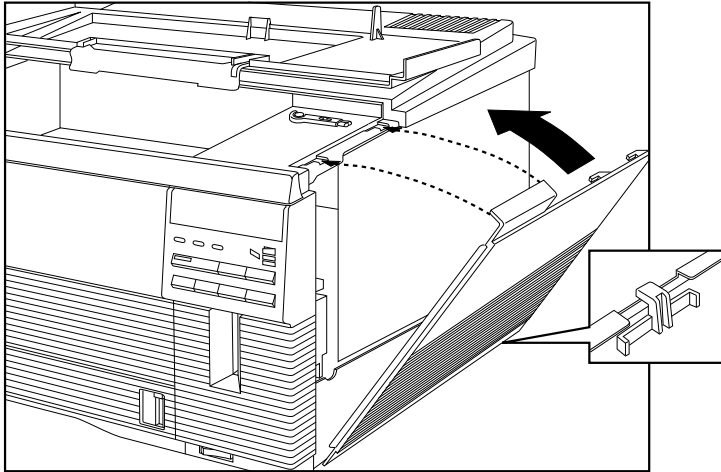

Fig. 9.17 Replace the Side Cover
13. Replace the side cover by slipping the tabs on the bottom edge into the slots on the printer and raising the cover back up (fig. 9.17).